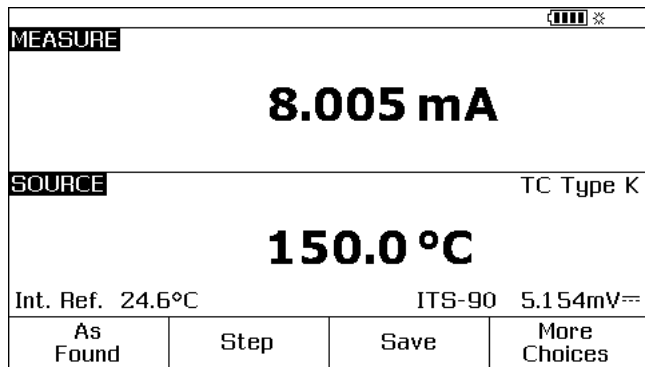

Figure 28. Process Instrument Calibration Screen
9. Push **MEASURE** for MEASURE/SOURCE mode. The display changes to the screen shown in Figure 28.